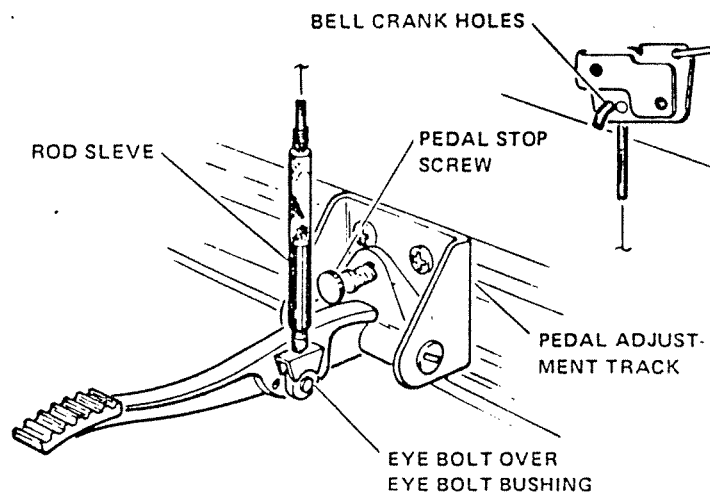

FIGURE 4
(C) The pull rods are then connected to one of the two bell crank holes located on the front of the frame. The hole nearest the edge of bell crank will provide easier pedal action, but longer stroke. Insert the hook end of the rod into the bell crank, slip the eye-bolt end over the eye-bolt bushing located on the side of each pedal. Each pull rod is numbered at the eye-bolt end for convenience, number One starting from the left side in playing position. (See Fig. 4)
All pedals should be checked to make sure they do not touch the floor when depressed. If a pedal needs to be raised, loosen the pedal stop screw and adjust the pull rod sleeve directly above the eye bolt. (See Fig. 4) . To lower a pedal, loosen the pull rod sleeve the desired amount and reset the stop screw.
The pedal board provides a sliding track for side to side adjustment of pedals. To relocate pedals, place instrument bottom side up. Disconnect pedal rod and raise pedal up for better access to screws. Loosen the two screws and slide pedal to desired position. Tighten screws. Pedal rods may need readjusting for new location. (See Fig. 4)